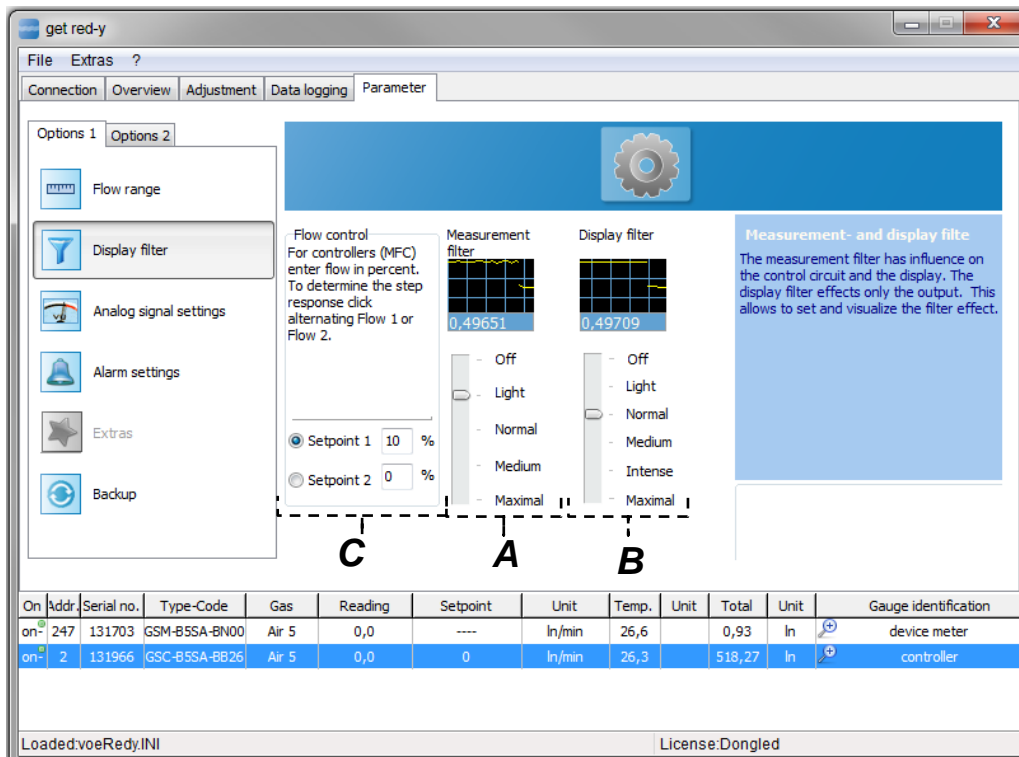

Figure 20: The Display filter page for setting the measurement value and display filters
- D. From End Value:** The values in the [Cor. [%]] column in the Table in Figure 20 represent the measurement value errors in percentages. When you select a row the end value errors are also given in percentages.
- C. Flow control:** Changes to the measurement value filter have a direct effect on the control behavior. With the step response you can analyze how a change in the measurement value filter effects the control circuit. To do this enter the percentage values in the input boxes at Set point 1 or Set point 2 in Figure 20. (In % of the end value) After entering the set point settings, you can change between Set point 1 and 2.